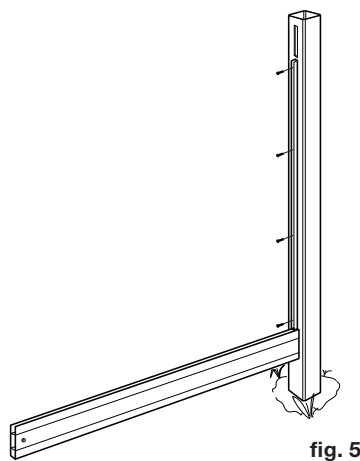

fig. 5
STEP 3 – With the bottom rail placed, secure a U-channel to the center of the post using a power drill and the provided screws. The U-channel needs to sit above the bottom rail. Set a screw every 20 inches (fig. 5).